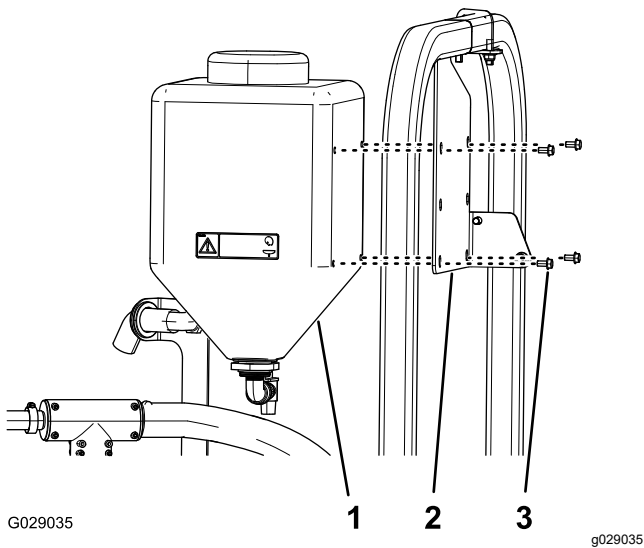

Figure 3
2. Remove the 4 flanged head bolts that secure the fresh water tank to the mounting bracket (Figure 3).
3. Remove the tank from the machine (Figure 3).